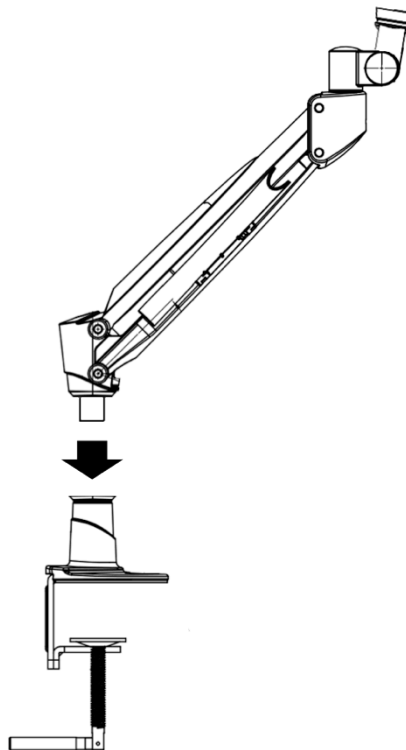

Figure 3: Insert arm bracket into opening on the clamp
2. **Connect the arm to the clamp** as shown in Figure 3.